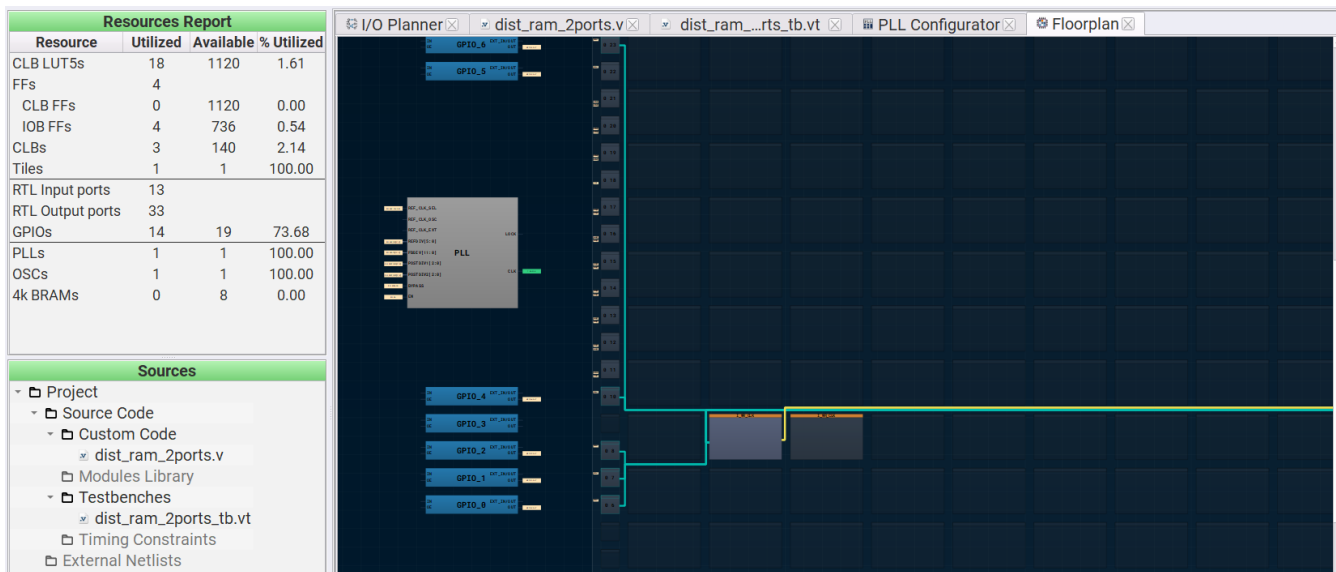
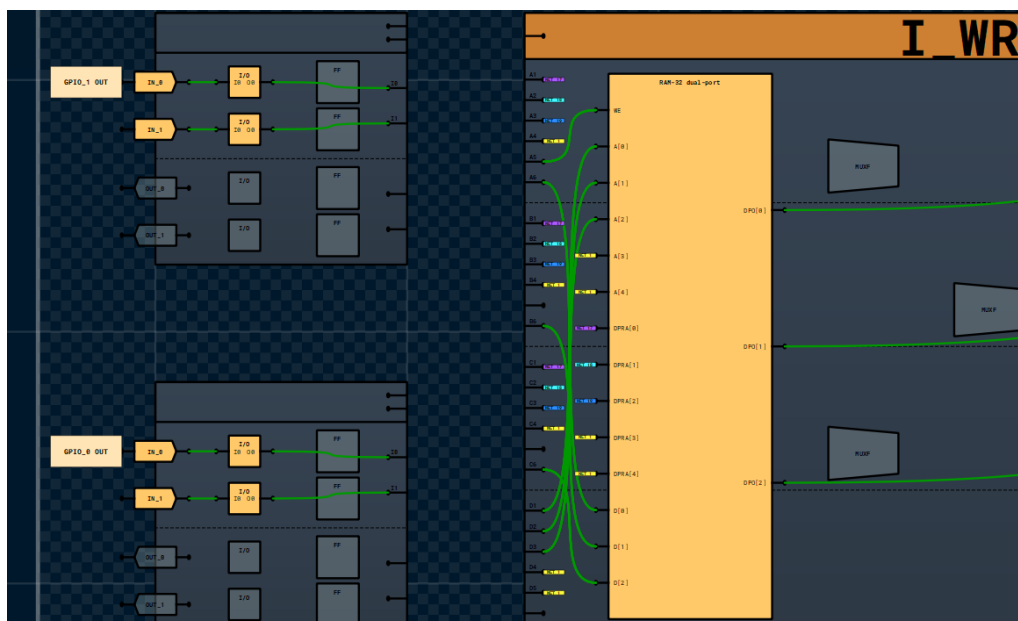

Figure 3: Distributed RAM CLB Utilization
Figure 4: RAM-32 Dual-port Shown in CLB
The Floor planner tab in the FPGA Editor shows the placement of CLBs and FFs (Figure 3). The resource utilization is shown in the top left corner. And we can also zoom in the CLB to check the LUTs in it are used as a RAM-32 dual-port (Figure 4).
7. Now click on the Floorplan tab and see the CLB utilization (Figure 3). Press the Ctrl and the mouse wheel to zoom-in. Confirm that the IOs selected in the IO Planner are shown in the floorplan.